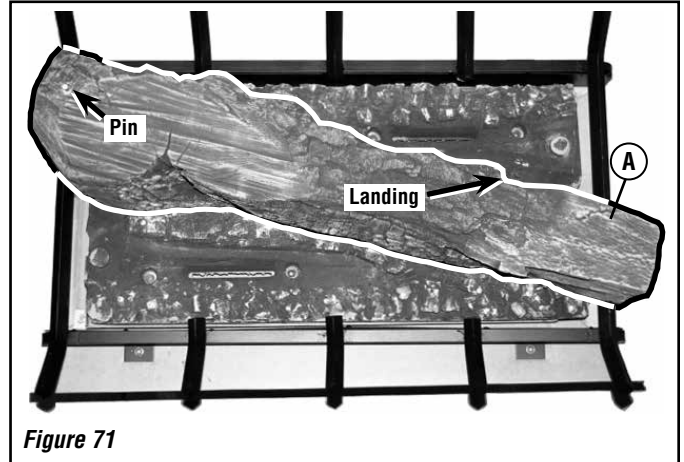

Figure 71
6. Place rectangular notches on underside of Center Log A (Figure 71) over Boss #1 and Boss #4 (Figure 14).